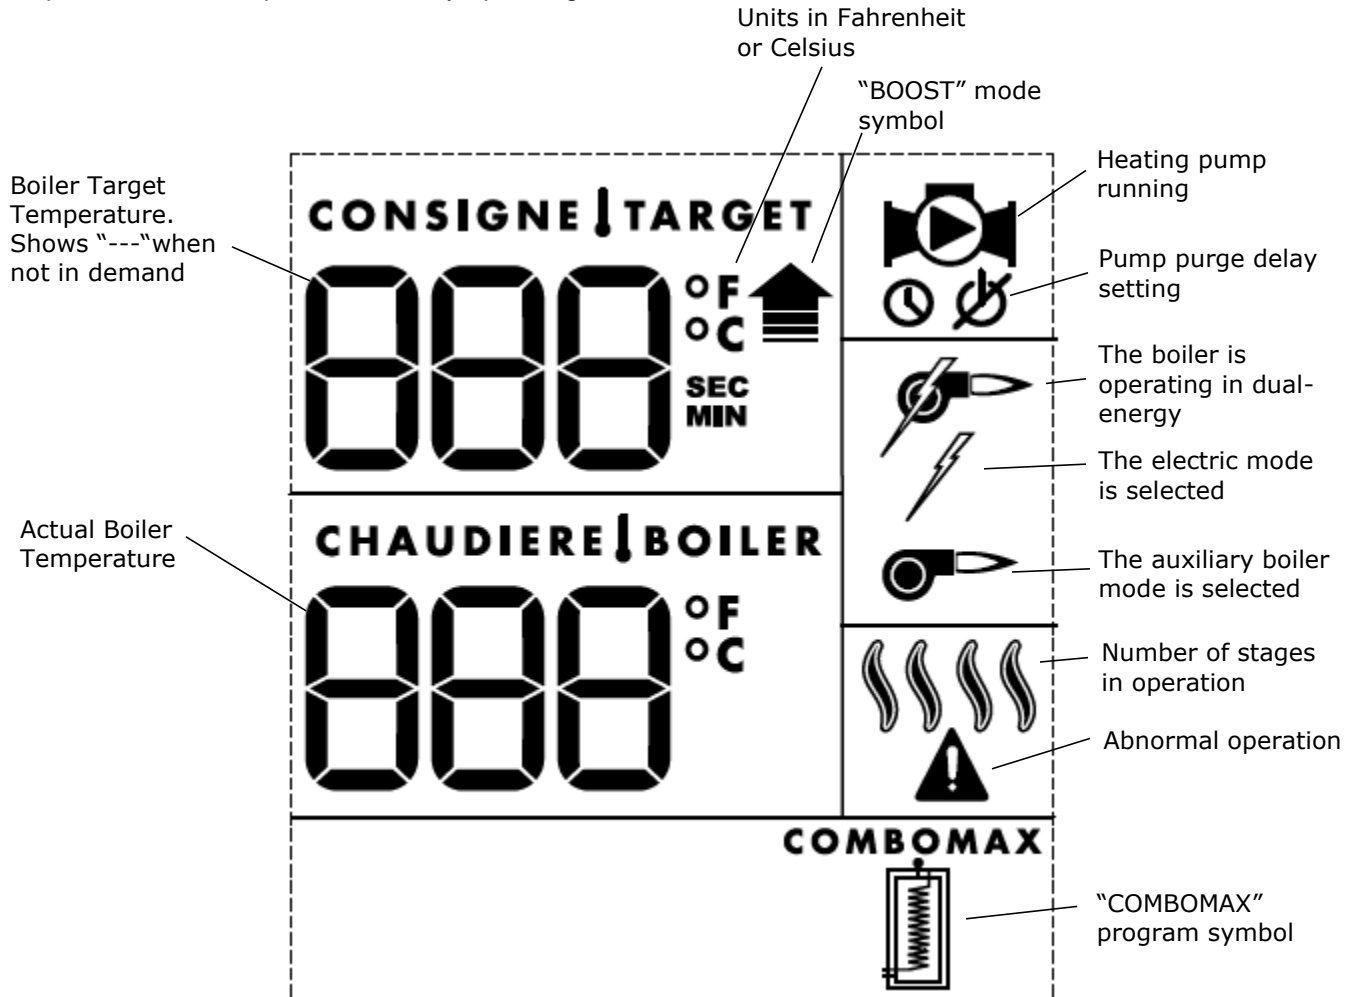

Figure 13: UltraSmart Controller Display
2. Make sure the Combomax symbole is displayed on the bottom right corner of the LCD screen as on figure 13. if it is not showing, call technical support.